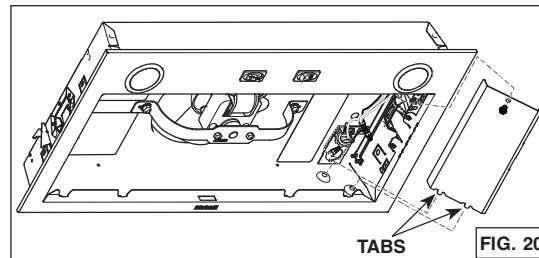

FIG. 20
2. Reinstall the wiring compartment cover in the unit; ensuring the bottom tabs are inserted in their embossed location. Secure in place using its retaining screw (FIG. 20).